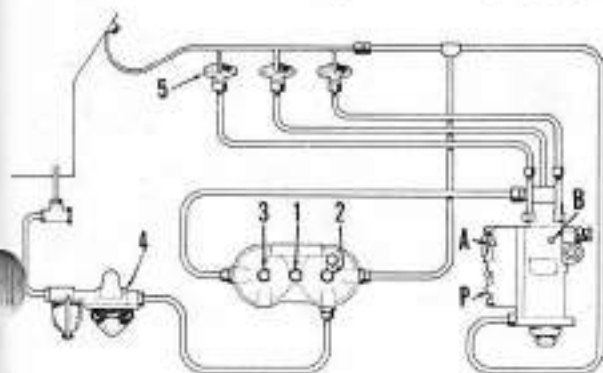

Fig. 54—Drawing showing lay-out of diesel fuel system for 3-cylinder engine. Fuel pump (4) provides fuel under pressure to primary fuel filter (2).
**103.** Make sure fuel tank contains at least two gallons of fuel, open fuel supply valve, refer to Figs. 54 and 55 and proceed as follows:
Turn engine, if necessary, so that primer lever of fuel pump (4-Fig. 54) will operate fuel lift pump. Open filter bleed screw (1). Actuate primer lever until fuel flows freely without trace of air bubbles from bleed screw opening. While maintaining flow of fuel with primer lever, tighten bleed screw (1). Refer to Fig. 55, open bleed screw (B) and actuate primer until air free fuel flows from bleed opening. Tighten the bleed screw (B) while maintaining flow of fuel with primer lever, then repeat this operation with bleed screw (A) and pump cover. Tighten bleed screw (A) and loosen the fuel line to injector nuts. Be sure stop control is in run position and open throttle. Crank engine until fuel is ejected at all fuel injector connections and then tighten the connections. Engine is now ready to start using normal starting procedure.